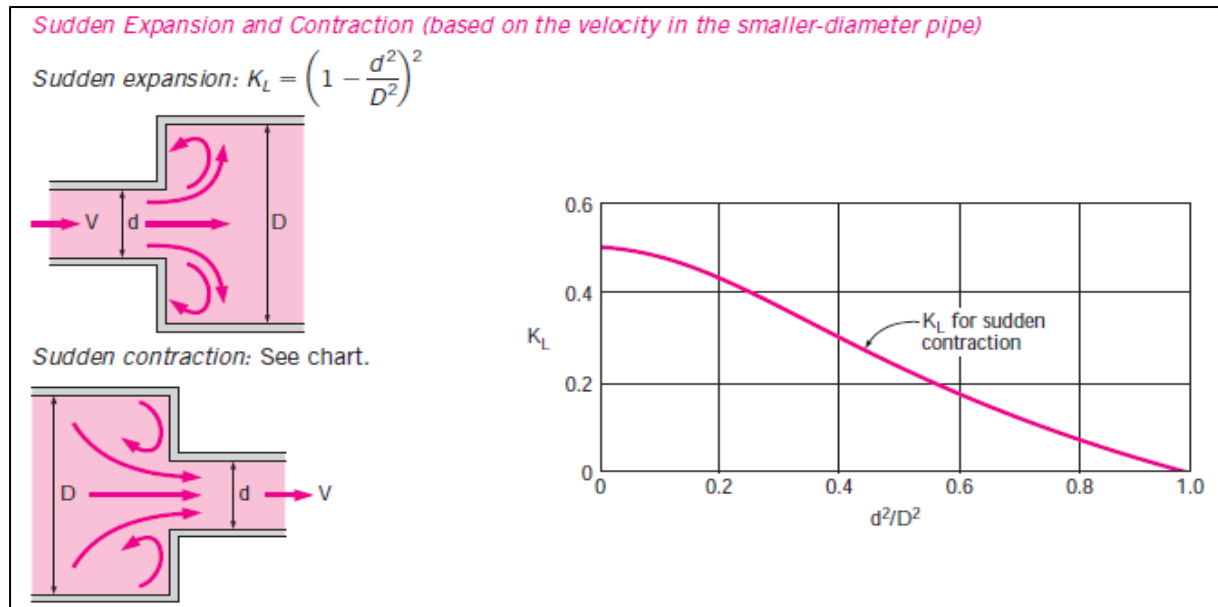

Figure 11. K_L for Sudden Expansion and Contraction
- The loss coefficients for sudden and gradual expansion and contraction are shown in Figures 11 and 12.
No such relationship exists for a sudden contraction, and the K_L values in that case can be read from Figure 11.